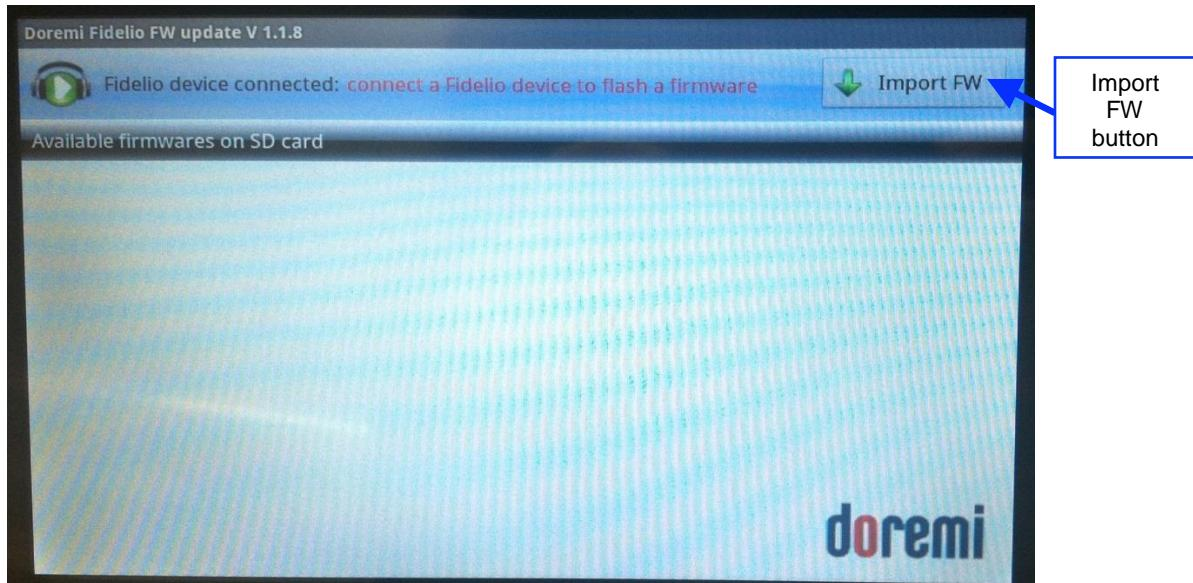

Figure 88: Packages Scanned
- Go to the Fidelio FW Update app on the Tablet's home page. It will scan all available firmware packages on the USB drive (Figure 88).